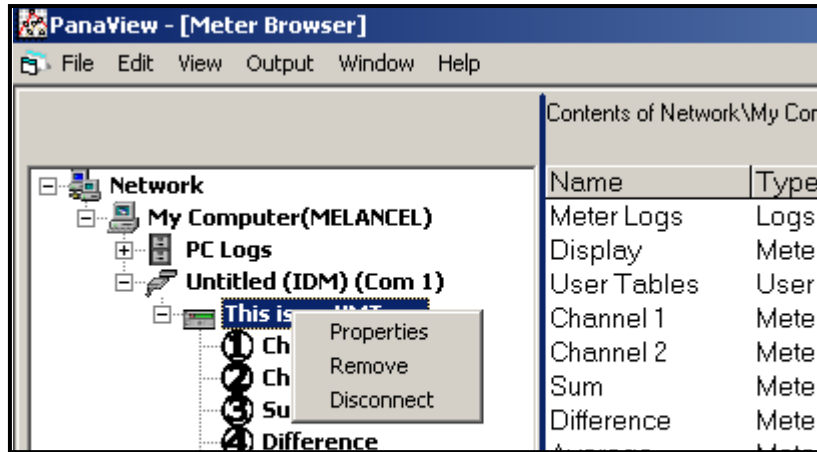

Figure 47: Properties Option
2. Right-click on the highlighted XMT868i and select the *Properties* option, as shown in Figure 47.